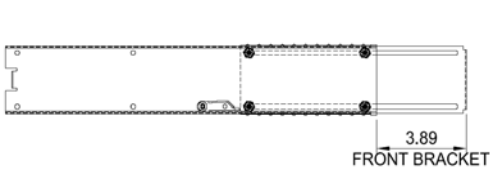

Figure 2
- 4) Assemble the front-end brackets (item 4) to the outside of each slide (item 3) with four (4) supplied 10-32x1/2 pan-head machine screws, four (4) flat washers (item 15), and four (4) 10-32 locking nuts (item 21). Before tightening, ensure the two sections are aligned straight with one another and that the distance between the forward end of the front bracket and the forward end of the slide measures 3.89", as indicated (figure 2). Tighten all hardware.
- 5) Install the rear-end brackets (item 4) to the outside of each slide (item 3) with four (4) supplied 10-32x1/2 pan-head machine screws, four (4) flat washers (item 15), and four (4) 10-32 locking nuts (item 21). Do not tighten at this time.
- 6) Determine the height at which UltraVolt's **HV Rack** system is to be positioned in the industrial rack. Position and hold the previously assembled slide section with two attached end brackets in place, with the right angle slotted flange towards the inside edges of the industrial rack. Slip a 10-32x1/2 screw (item 11) through the front of the industrial rack-mounting edge and through the front slotted end flange. Secure with a split ring locking washer (item 16) and a nut (item 20), capturing the slotted flange between the nut and industrial rack-mounting inside edge. Repeat this for the rear bracket. Double up the fasteners on both the front and rear mounting screws; two screws in front and two in back for each side. Tighten all hardware.